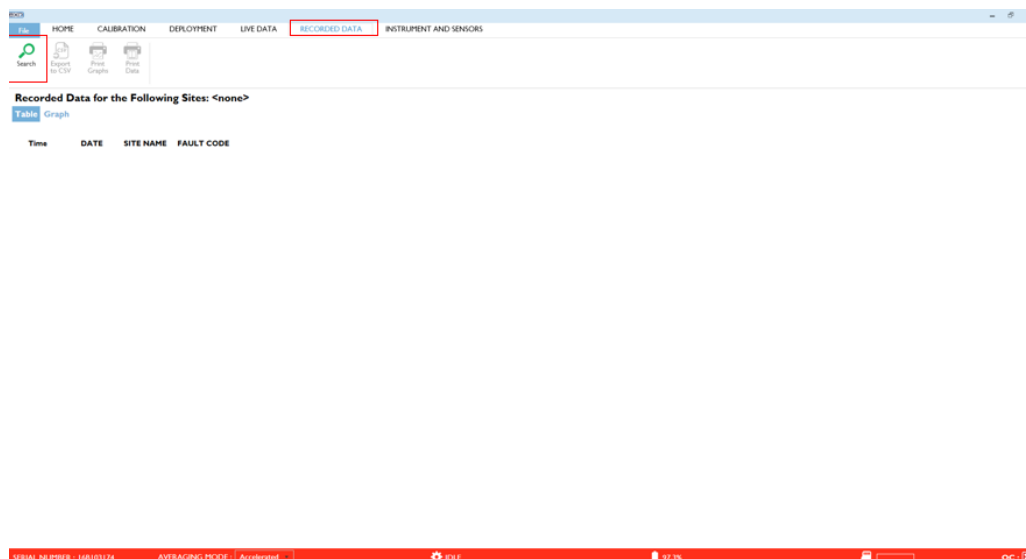

Figure 6. Open Recorded Data tab
1. In the KorEXO software, select the **Recorded Data** tab (Figure 6).
2. Select **Search** (Figure 6) and select the most recent deployment.